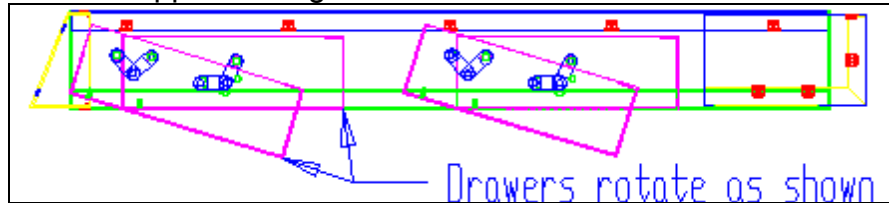

Figure 1 Side view of 048 console
- ✓ Use the (3) U-bolts, 5/16 washers, and locknuts provided to fasten the rear sliding assembly (now slid partially inside main body) to the rollbar.
6. Mount the drawers into the openings in the main body assembly. Be sure that the links inside the console are "resting" so that the holes line up with the holes in the body. It is important to place a piece of cardboard under the drawer to prevent scratching during installation. If the drawer is pushed up into the opening in the main body assembly in the approximate orientation of the open drawer in Figure 1, the holes in the body, link, and drawer will line up and (4) 1/4-20x3/8" socket head cap screws can be installed using the 3/16" allen wrench. Note, only fasten each drawer with the two links toward the front of the vehicle, **DO NOT** fasten the links toward the rear of each drawer.
7. Mount stereo, CB, and/or speaker in drawer(s). Be sure to secure wires to side holes on the rear side of the drawer with (1) zip tie per drawer(provided) to ensure wires will not snag onto anything.
8. Attach the stereo to the drawer using the stereo support strap and (1) 10-32 flat washer and (1) 10-32 locknut.
9. Attach supply wires to stereo and/or CB wires. Route the wires by attaching them to the studs on the top of the console with (3) zip ties provided and (3) 8-32 locknuts along with the 11/32 wrench or socket. Use remaining (3) zipties to bundle wires together. **Warning!** Wires must be routed so that they do not interfere with the opening of the drawer or the operation of the cam. Be sure wires will not be pinched. Leave enough slack in the wires so that the drawers will be able to move freely. Refer to Figure 1 and note how the drawers move relative to the body.
10. Install the footman loop, you removed from the front windshield, into the nuts that have been pressed into the main body assembly just behind the rear drawer opening. Use the (2) 10-32x3/8 flat slotted screws and the screwdriver for installation. This footman loop will act as an anchor point for installing and securing a "Bikini" top.
see Figure 1. Use (4) ¼-20x3/8 socket head cap screws provided to fasten the link to the drawer. Tighten the screw all the way and then back it off 3/8 to 1/2 of a turn. Follow this procedure until the drawer is fastened and in place. **Warning!** The nuts inserted in the drawers are self-locking. The socket head cap screws will be difficult to screw in because of this feature. Do not cross thread screws.
14. Insert (8) ½” hole plugs in holes on main body.